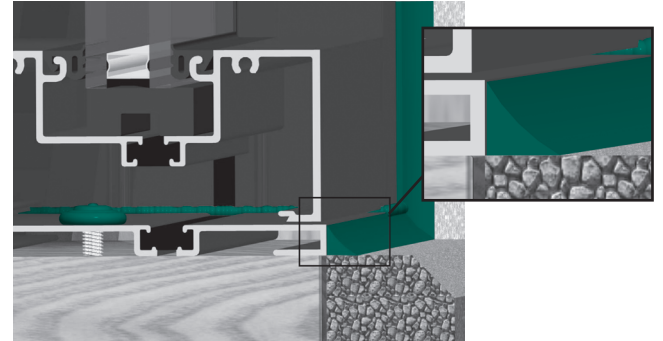

FIGURE 3.3 – FILLET OR ANGLE JOINT
- 2) Fillet or Angle Joint (Figure 3.3)